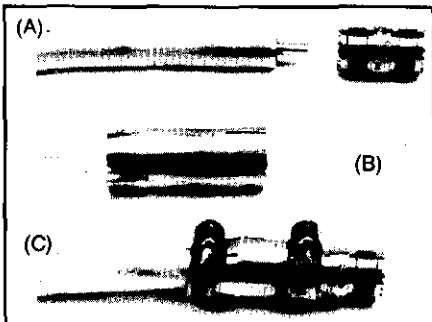

Fig 11—WB5GDB's Hardline connector (see text for explanation.)
□ Many hams would use rigid coaxial cable (Hardline) in their stations if not for the hard-to-get and often expensive connectors that it requires.³ Here is a way to fit 1/2-inch Hardline with a PL-259 for about \$3. Refer to Fig 11 while reading these instructions.